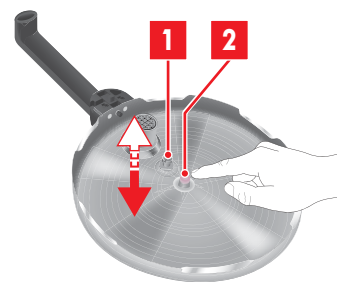

Abb. 8: Safety testing
1. Check that the safety valve (fig. 8/1) and pressure indicator (fig. 8/2) function properly.